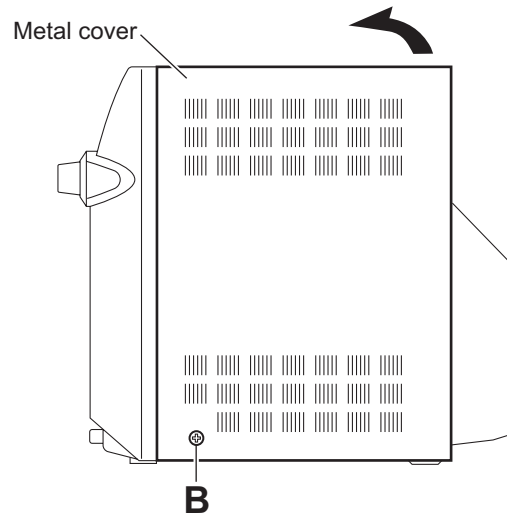

Fig.2
- (2) From the both sides of the main body, remove the two screws **B** attaching the metal cover. (See Figs.2 and 3.)
- (3) Remove the metal cover from the main body while lifting the rear section of the metal cover in the direction of the arrow. (See Figs.2 and 3.)